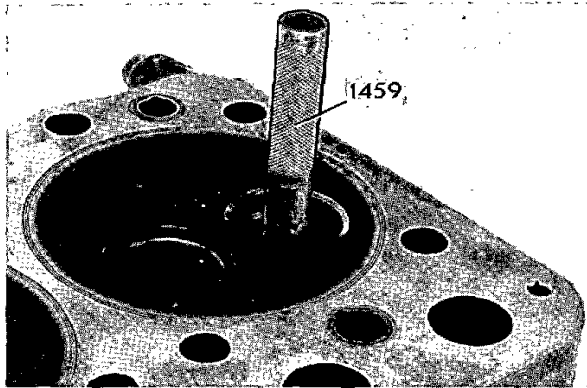

Fig. 73. Removing a valve guide, 60 series
1. Press out the valve guides with drift 1459 for the 60 series (fig. 73), and drift 1084 for the 70 series.